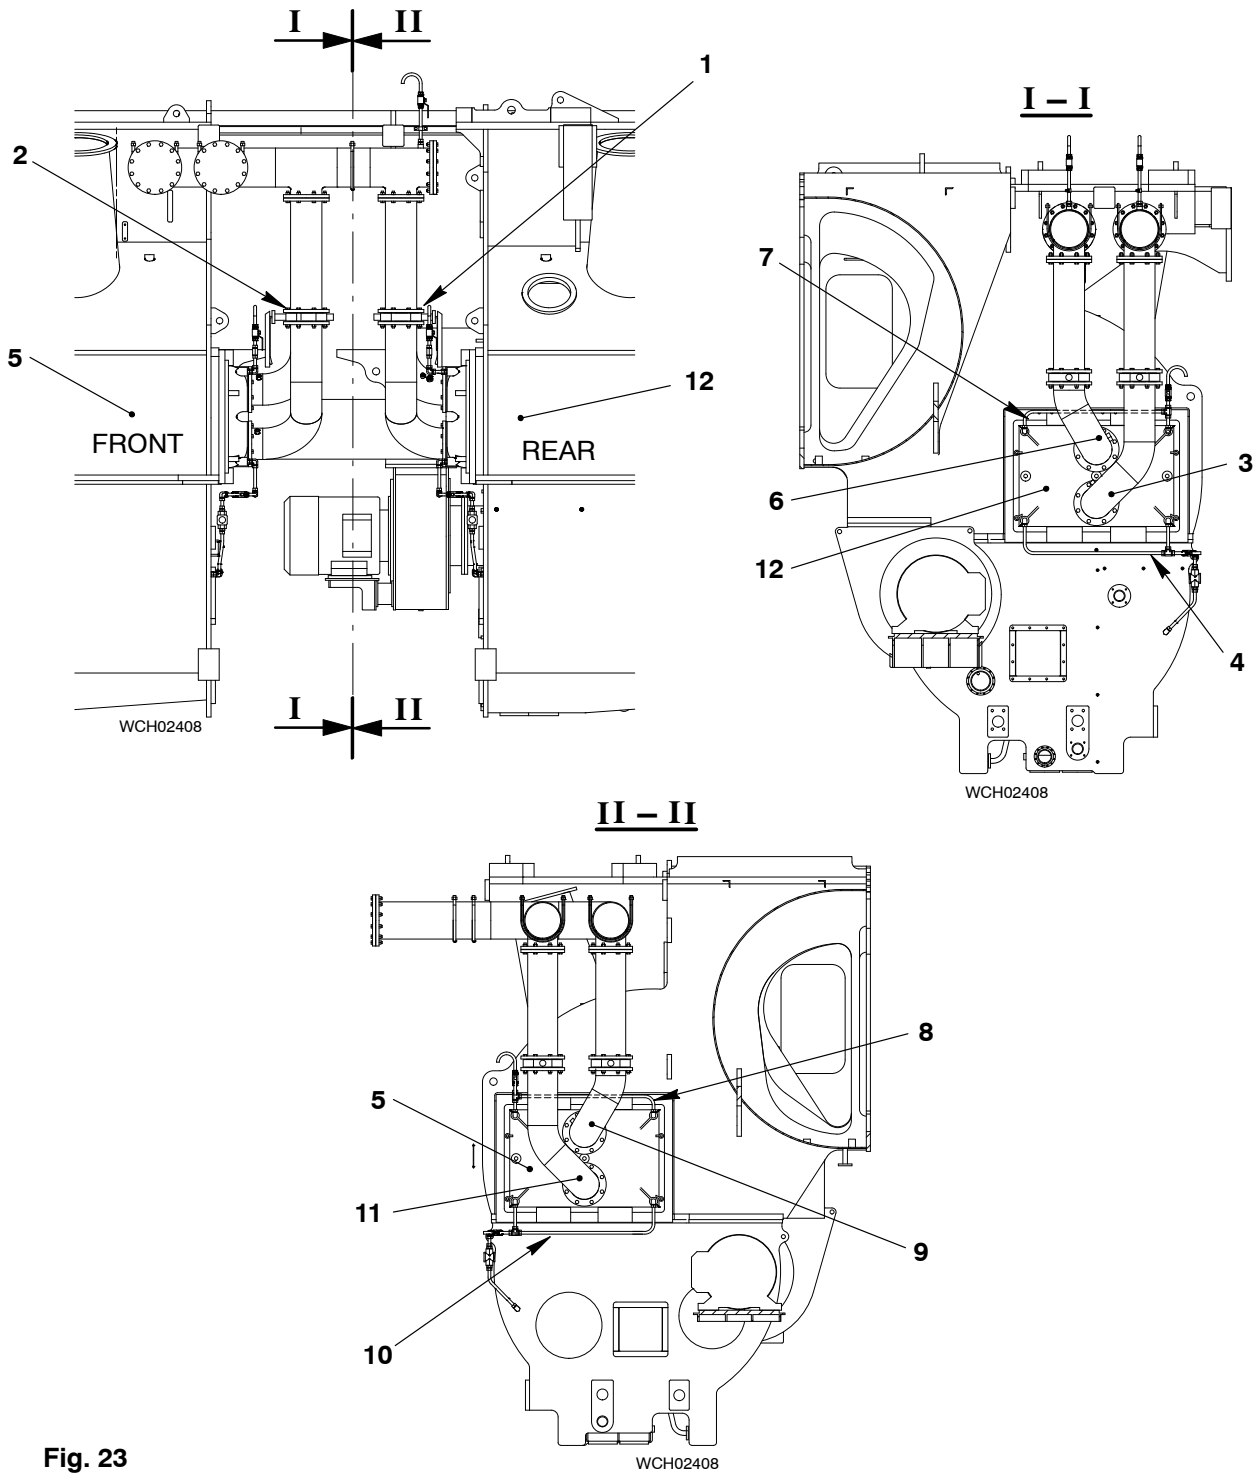

Fig. 23
- 1) Install the drain pipes (4 and 10, Fig. 23).
- 3) Install the outlet pipes (6 and 9, Fig. 23).